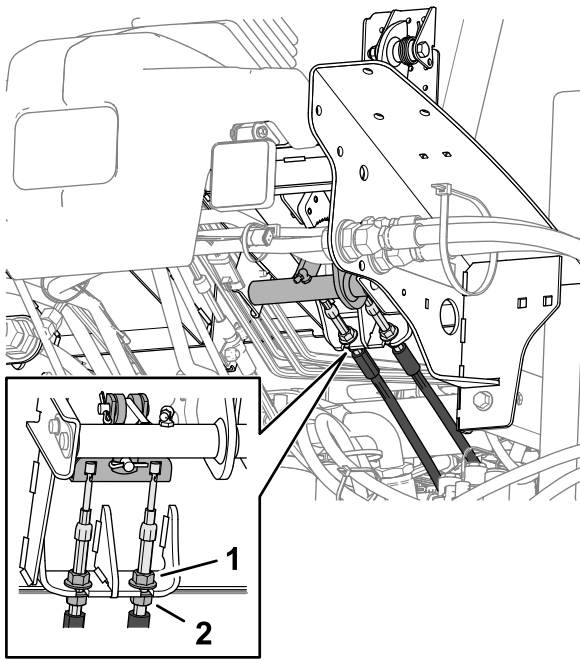

Figure 108
5. To reduce brake pedal-free travel, loosen the front jam nuts on the threaded end of each brake cable (Figure 108).